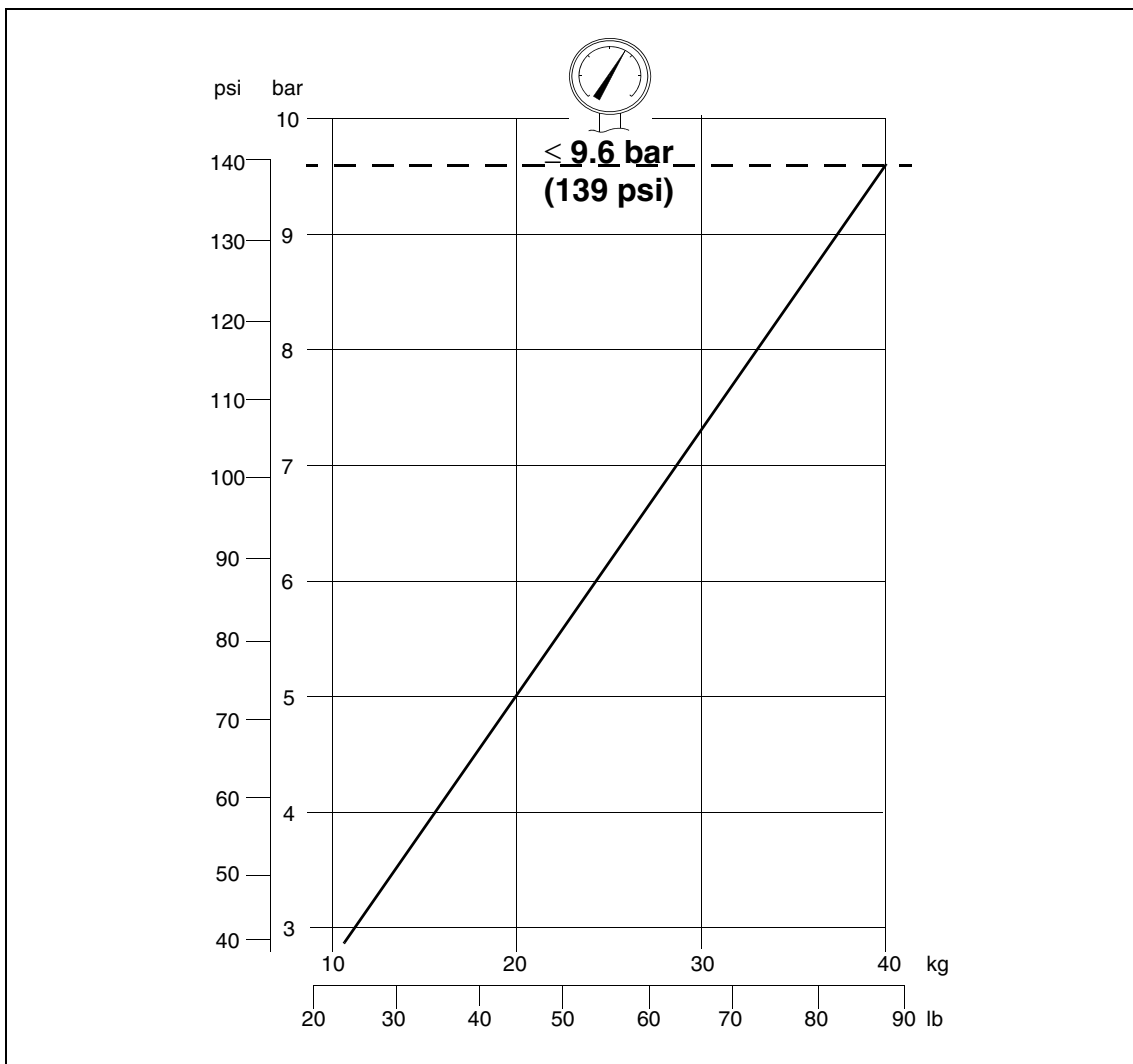

Fig 3 Pressurization Graph
Stop pumping when the required pressure is reached (Fig 3) during the pumping stroke. Do not exceed the maximum working pressure, indicated by the leading edge of the red sector on the gauge (2).